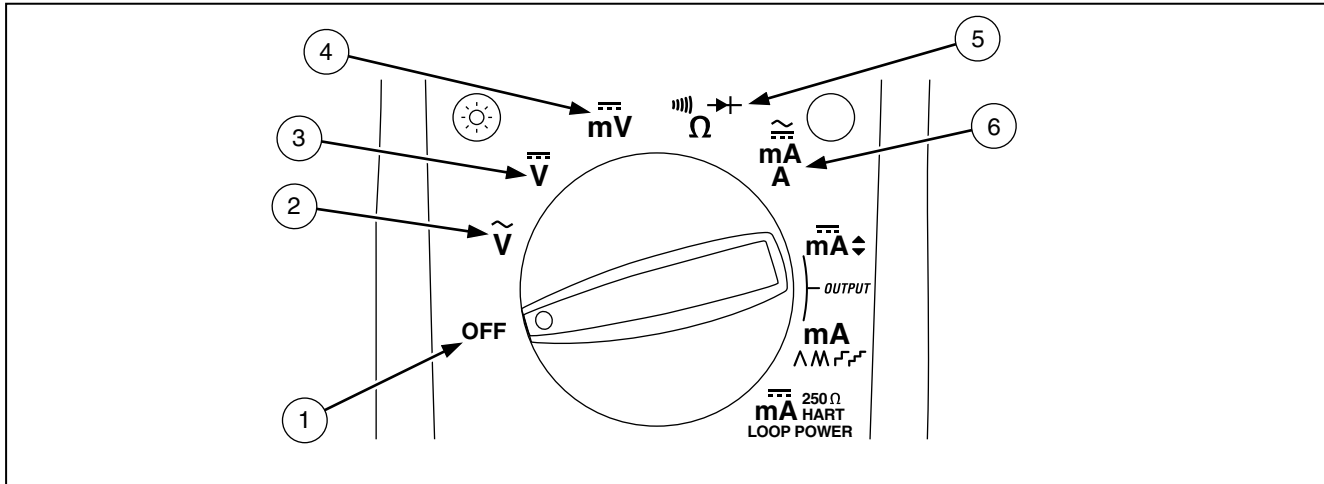

Figure 3. Rotary Function Switch Positions for Measurements
- Figure 3 and Table 3 describe the input functions of the first six rotary function switch positions.